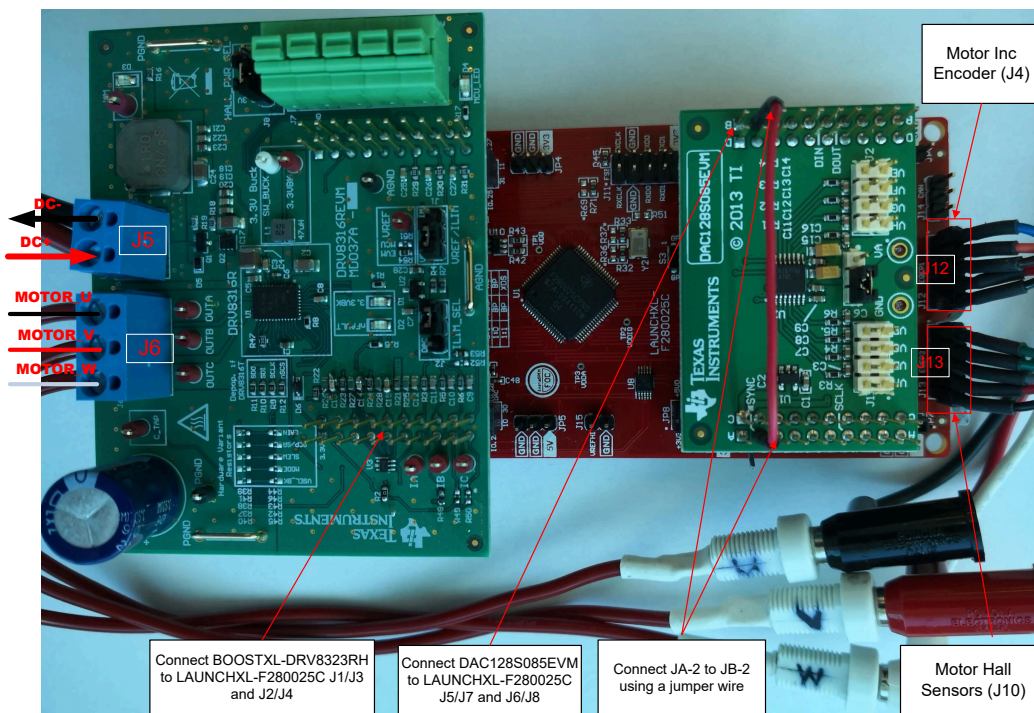

Figure 2-10. LAUNCHXL-F280025C Connects DRV8316 REVM and DAC128S085EVM
- Make sure that the following items are set as described below, and then connect BOOSTXL-3PHGANINV to J1/J3 and J4/J2 site of LAUNCHXL-F280025C as shown in Figure 2-10.
- Connect the motor, encoder, and hall sensors to the kits as described in Table 2-2 and shown in Figure 2-10.